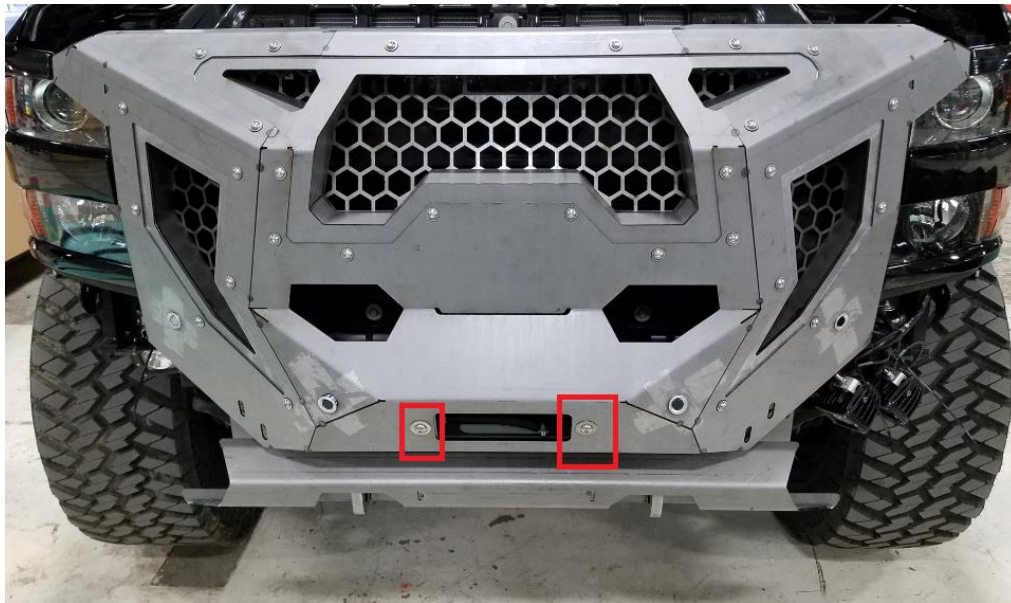

Figure 18a
***E. Install the center grill section onto the truck (Figure 18a & b). Secure it to the 2 brackets under the hood with 3/8" x .75" bolts. Fasten the center section to the winch tray with the 7/16" stainless button head screws. If you have a winch, the fairlead should be attached at this time using the bolts provided with the winch. Adjust the center section so that it's centered on the truck and at the correct height and tighten all fasteners. Connect the sensor wiring harness to the harness on the truck.***